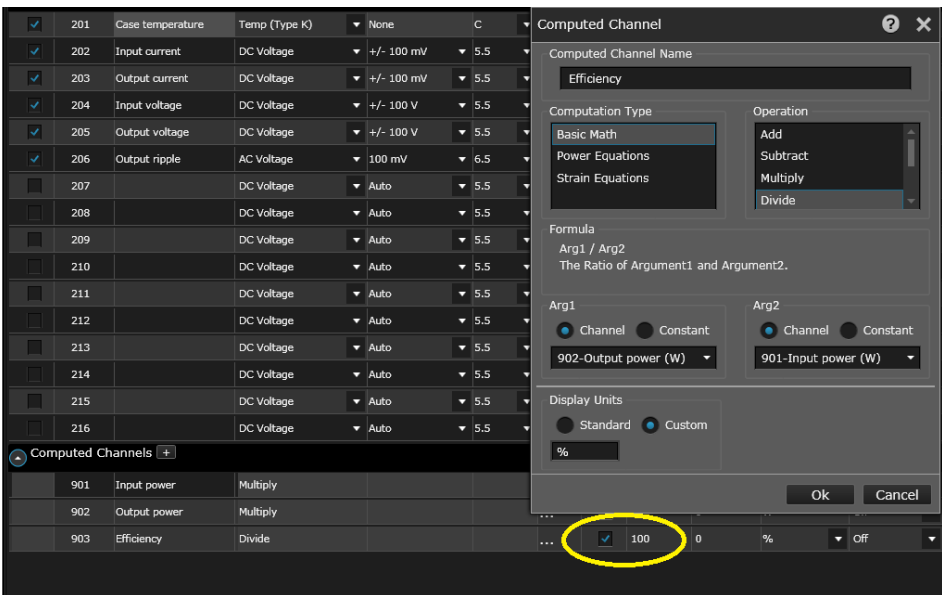

Figure 8. Efficiency in percent is computed by dividing computed powers and multiplying by 100.
We will be creating an XY chart to plot input and output current against each other (see Step 6). But first, you may want to create a strip chart, in this case one that plots efficiency vs. time : (Output Power/Input Power) x 100. So, another computed channel can be created that performs this division, applies a scaling factor (100), and sets the units to % as shown in Figure 8.